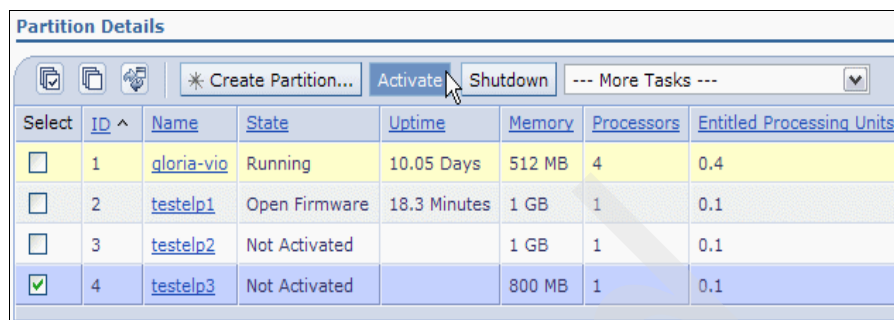

Figure 7-6 Activating an IVM partition
- b. Click **Activate** as shown in Figure 7-6 on page 312.